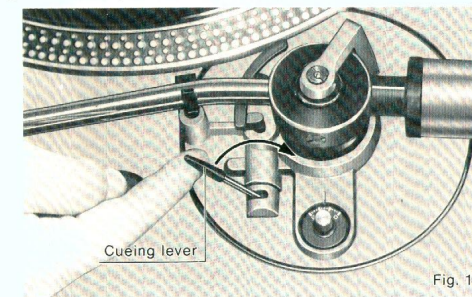

Fig. 17
- ③ Lift the cueing lever as indicated by the arrow. (See Fig. 17)